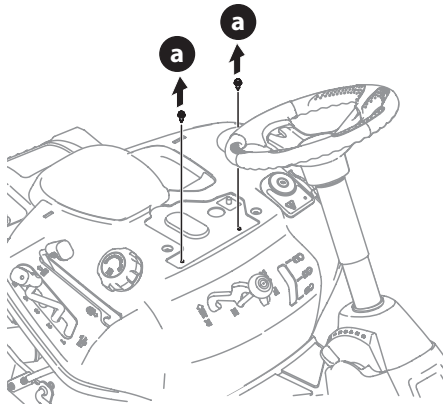

Figure 8
2. Remove the two self-tapping bolts (a) factory-installed on the riding mower (Figure 8).